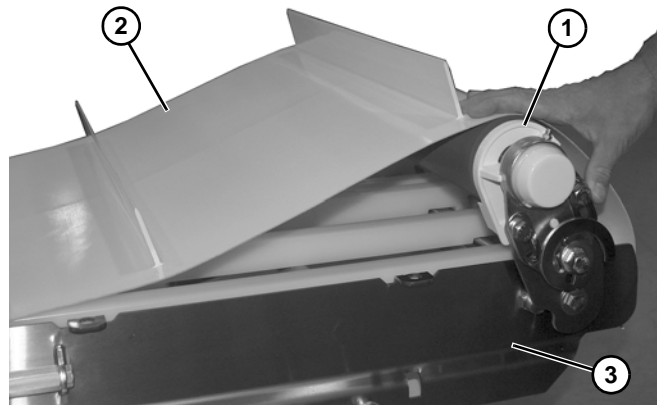

Figure 106
7. Rotate idler end (**Figure 106, item 1**) upward as shown.
8. Remove the belt (**Figure 106, item 2**) from the conveyor (**Figure 106, item 3**).